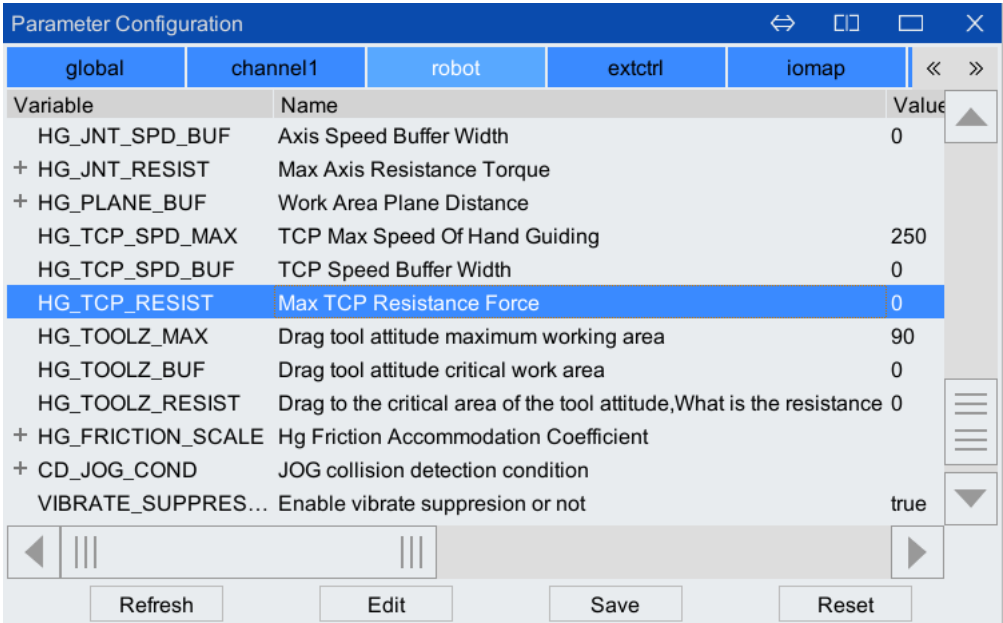

Figure 5-29 Parameter configuration interface
Step3. Enter the parameter configuration interface and select the [robot] tab, as shown in Figure 5-29, click and select the row where [HG_TCP_RESIST] is located, and click <Edit>.